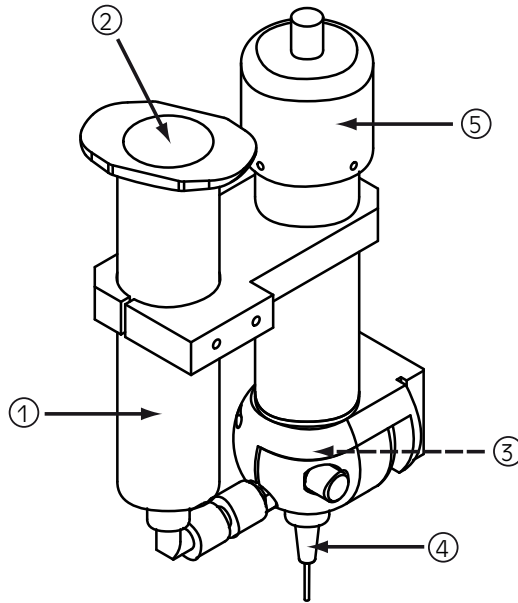

Fig. 2
The DV-5000DFS dispenses fluid with a positive displacement action using a rotary feed screw principle. Fluid material is held in a feed reservoir (1), see Figure 2, under a positive head of air, between 1 to 20 psi (depending upon the viscosity of the material). This positive air pressure, supplied by the air line (2), forces the fluid material out of the barrel into the feed screw chamber (3) material flow from this point, to the dispense tip (4), is controlled by the feed screw rotation in the feed direction. The feed screw is driven by the motor. Applying a DC voltage signal to the motor (5), will rotate the feed screw and the fluid will be forced out of the dispensing tip.